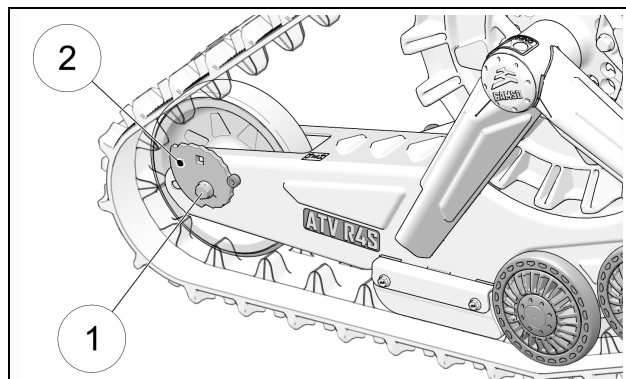

Figure 24
- Loosen both tensioner side wheel shaft bolts (1), enough to allow tensioner cams (2) to turn. Figure 24.